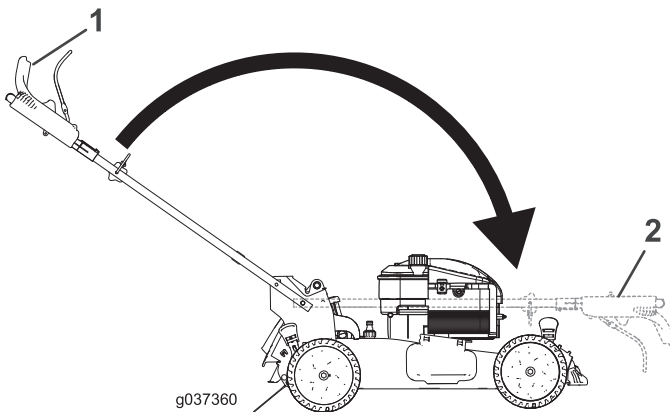

Figure 29
2. Fold the handle by rotating it forward (Figure 29).